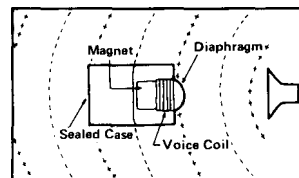

FIGURE 5-Omnidirectional Microphone
**How does an Omnidirectional Microphone Work?** The case of the microphone shown in Figure 5 is totally sealed, so that sound pressure can strike only the front of the diaphragm.